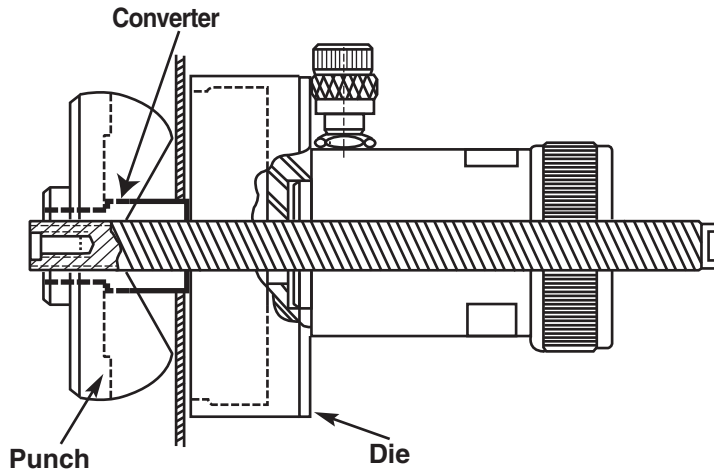

Figure 7
3. Remove the 1-1/2" punch and die. Install the 3-1/2", 4", 5", or 6" die over the pull rod. (See Figure 7)
4. Install the KC3540 converter on the inside of the punch. (Figure 7)